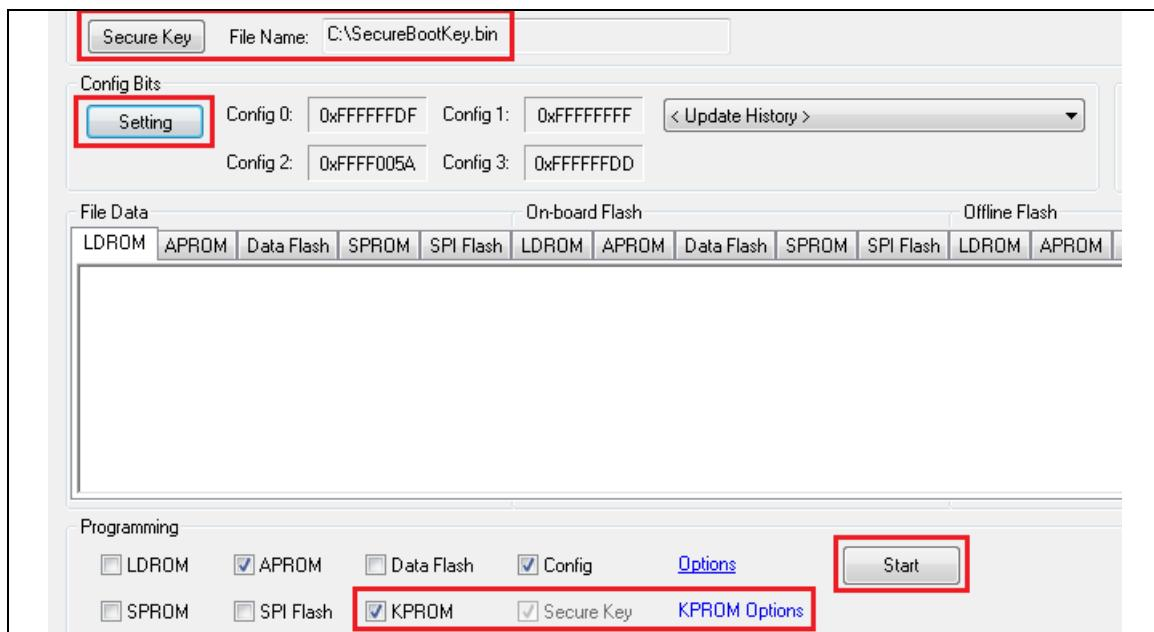

Figure 8-15 Program Secure Boot Key and Information Block
**Step5:** Select “Secure Key” option in programming options and click “Start” button to program in Figure 8-15.